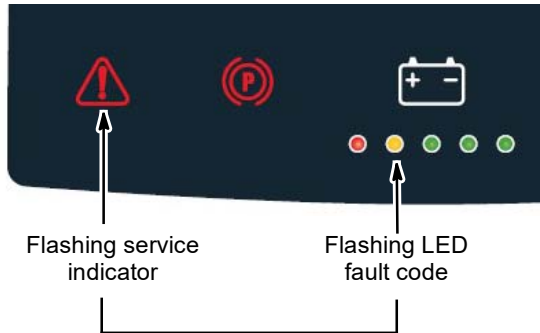

FIG. 49
- To drain remaining water from solution tank, pull the solution tank level hose from the accessory rail (Figure 49). Firmly reconnect the hose to the accessory rail after draining tank.